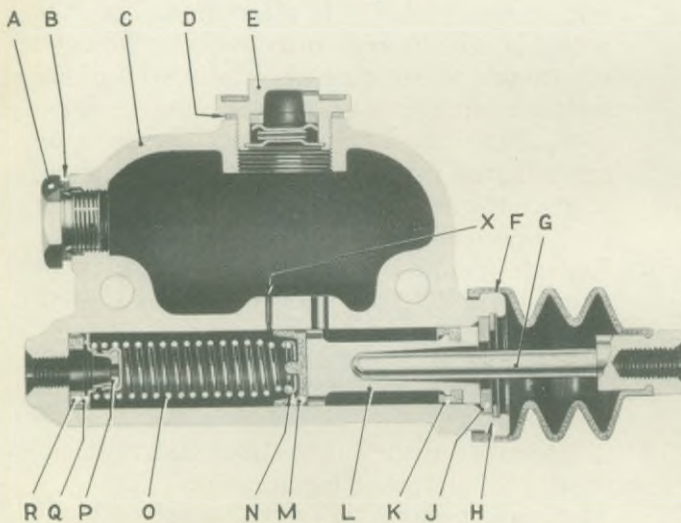

Fig. 1.
The correct amount of free play between the push rod (G) and the piston (L), Fig. 1, is set when the vehicle is assembled and should not be altered. If the adjustment has been disturbed, reset the length of the rod connecting the push rod to the pedal so that the pedal can be depressed approximately $\frac{1}{2}$ " before the piston (L) commences to move; this free play can readily be determined if the pedal pad is depressed by hand.
BRAKES MASTER CYLINDER (See Fig. 1)